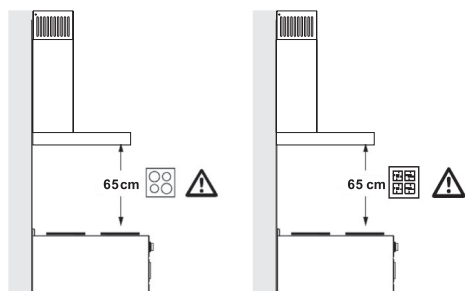

Fig.3
- Distance between the cooker and the cooker hood must be considered prior to assembly. This distance should be 65 cm (Figure 3).